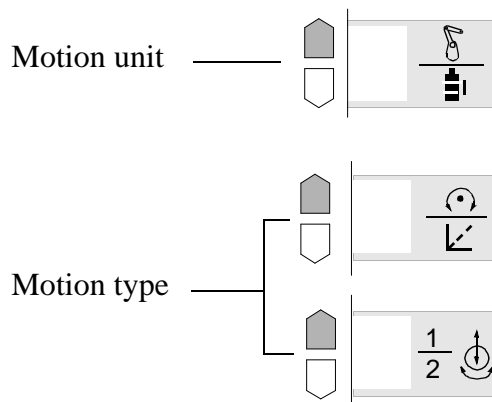

Figure 15 Motion keys, LEDs shows the current settings.
2. Check that the **Robot** motion unit and the **Linear** motion type are selected (see Figure 15).